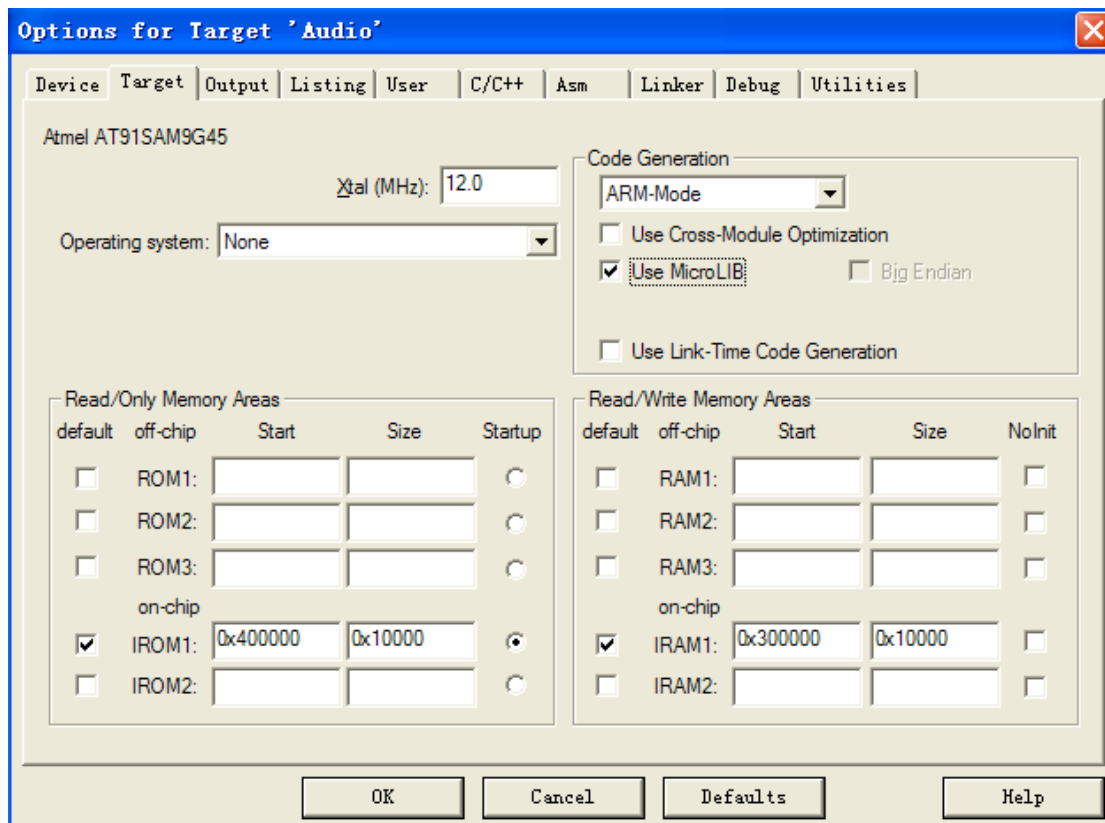

Figure 1-1 Target Tab
2) Click User Tab in Figure 1-1, it used to build a .bin file, as follows: